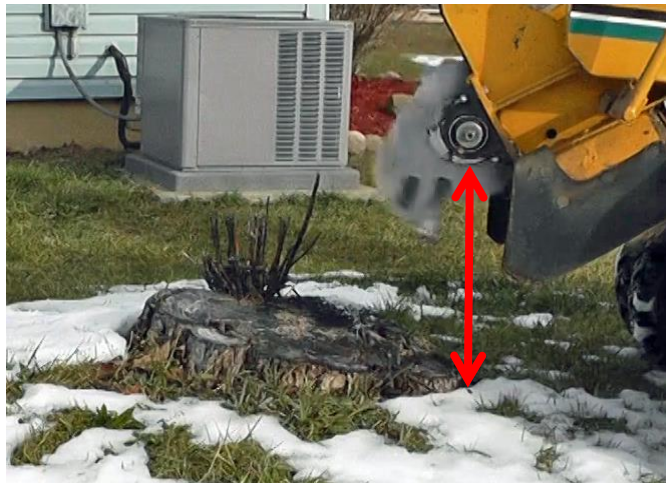

Figure 3.1
- a. Drive the machine into position with the cutting wheel shaft above the top front edge of the stump. (Figure 3.1)